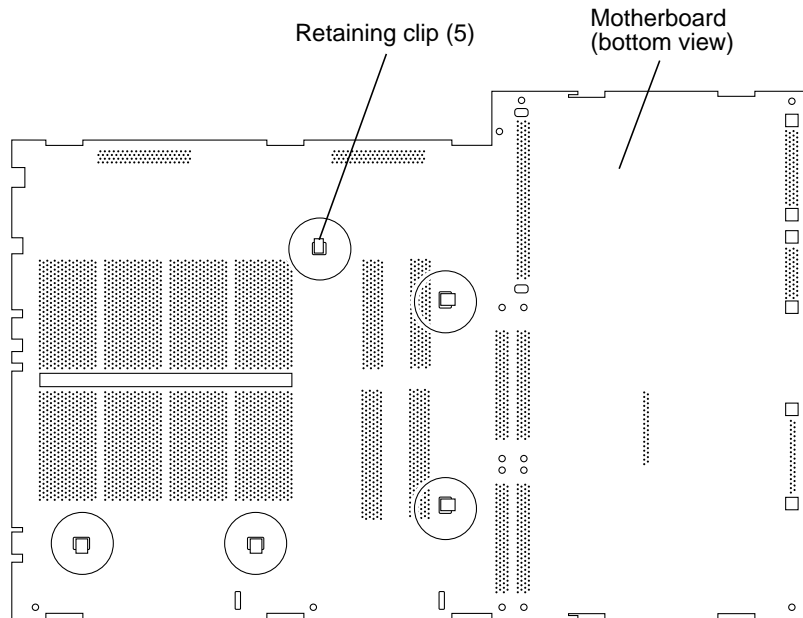

FIGURE 8-5 Shroud Assembly Removal
7. **Flip the motherboard over. Dislodge the five retaining clips securing the shroud assembly to the motherboard (FIGURE 8-5).**
1. **Replace the shroud assembly as follows (FIGURE 8-5):**